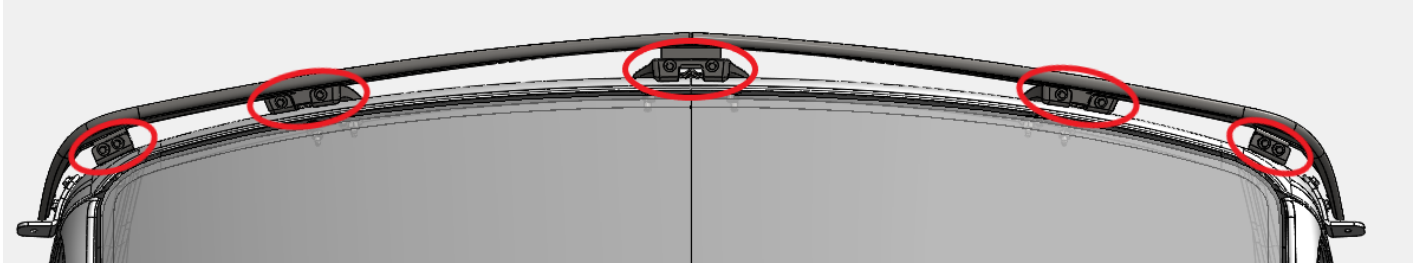

Figure 1: OEM Bolts to Remove (Looking up from bottom of visor)
1. Remove the factory sunvisor by removing the 10 bolts circled below in Figure 1.